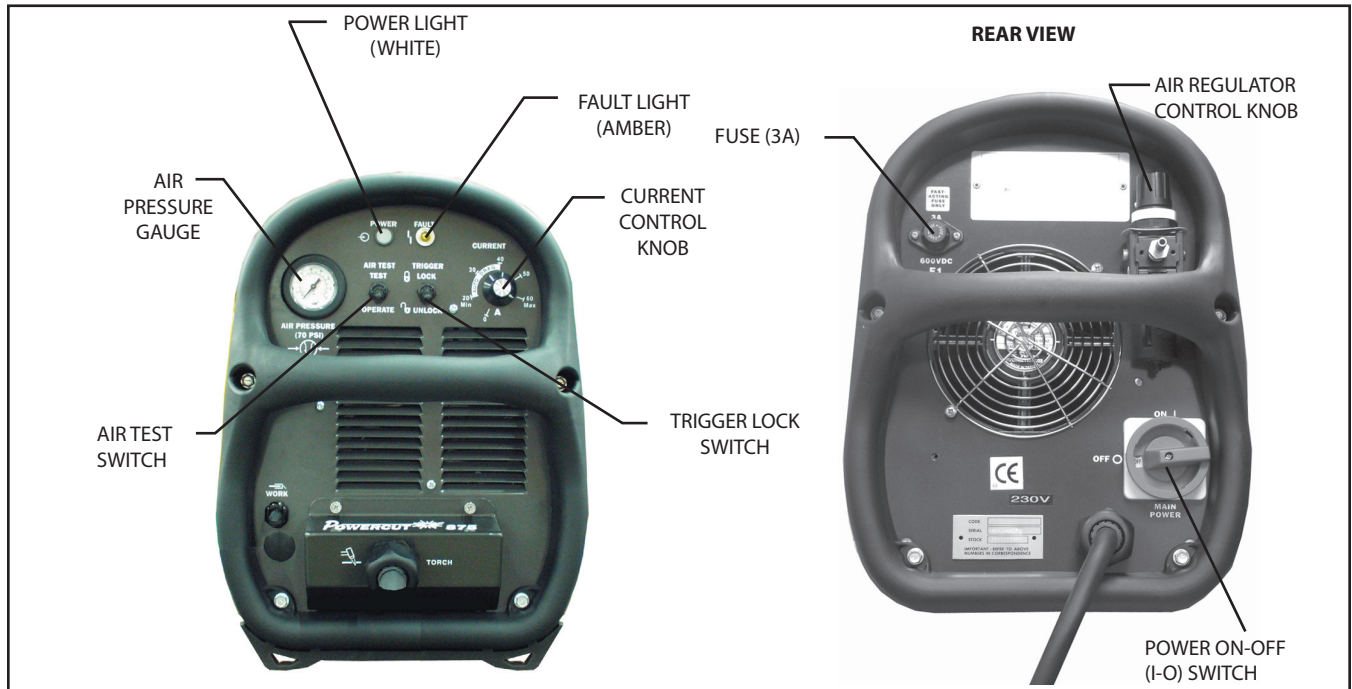

Figure 4-1. Powercut 875 Controls
**4.1 OPERATION****4.2 Powercut 875 CONTROLS (FIGURE 4-1)**